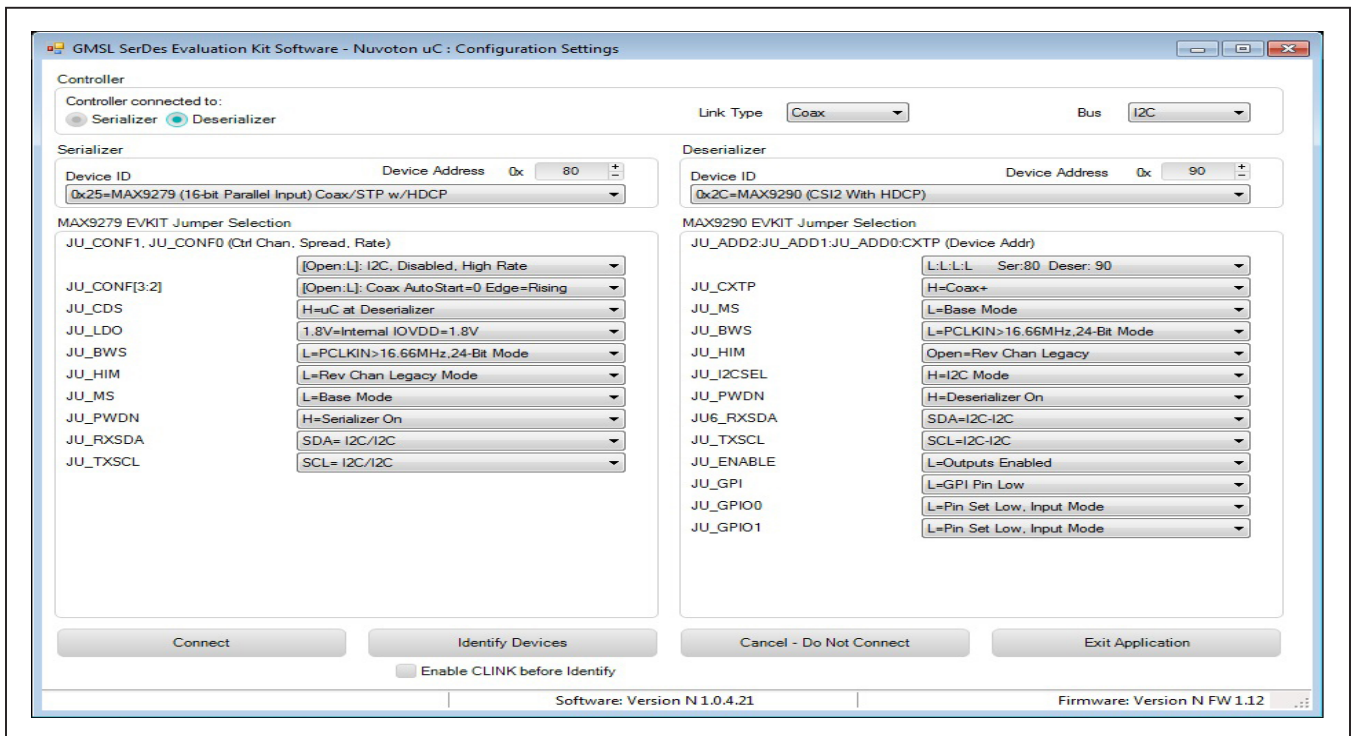

Figure 4. MAXSerDesEV-N EV Kit Software: Configuration Settings Window (Shown with MAX9279, MAX9290 EV Kits Connected)
- 15) The **Configuration Settings** window appears, as shown in Figure 4. The GUI automatically scans all possible slave addresses and identifies the connected devices (DUTs) based on the **Device IDs** read from the DUTs' internal registers.
The **Configuration Settings** window is the first window that opens after successful program launch. It allows the user to specify serializer and deserializer board setup and mode of operation (Figure 4).